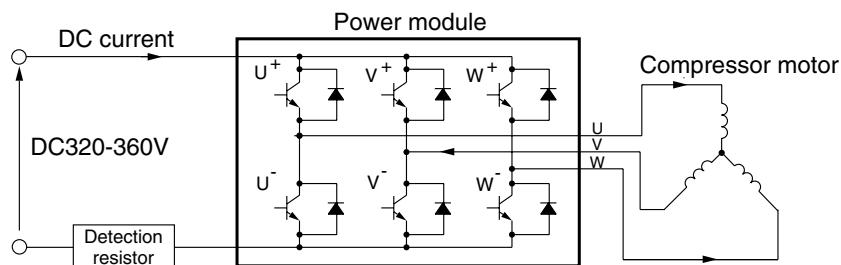

Fig. 7-9
- (1) Turns on the power module's U⁺ and V⁻ transistors so the current flows to the motor windings as shown in Fig.7-9.